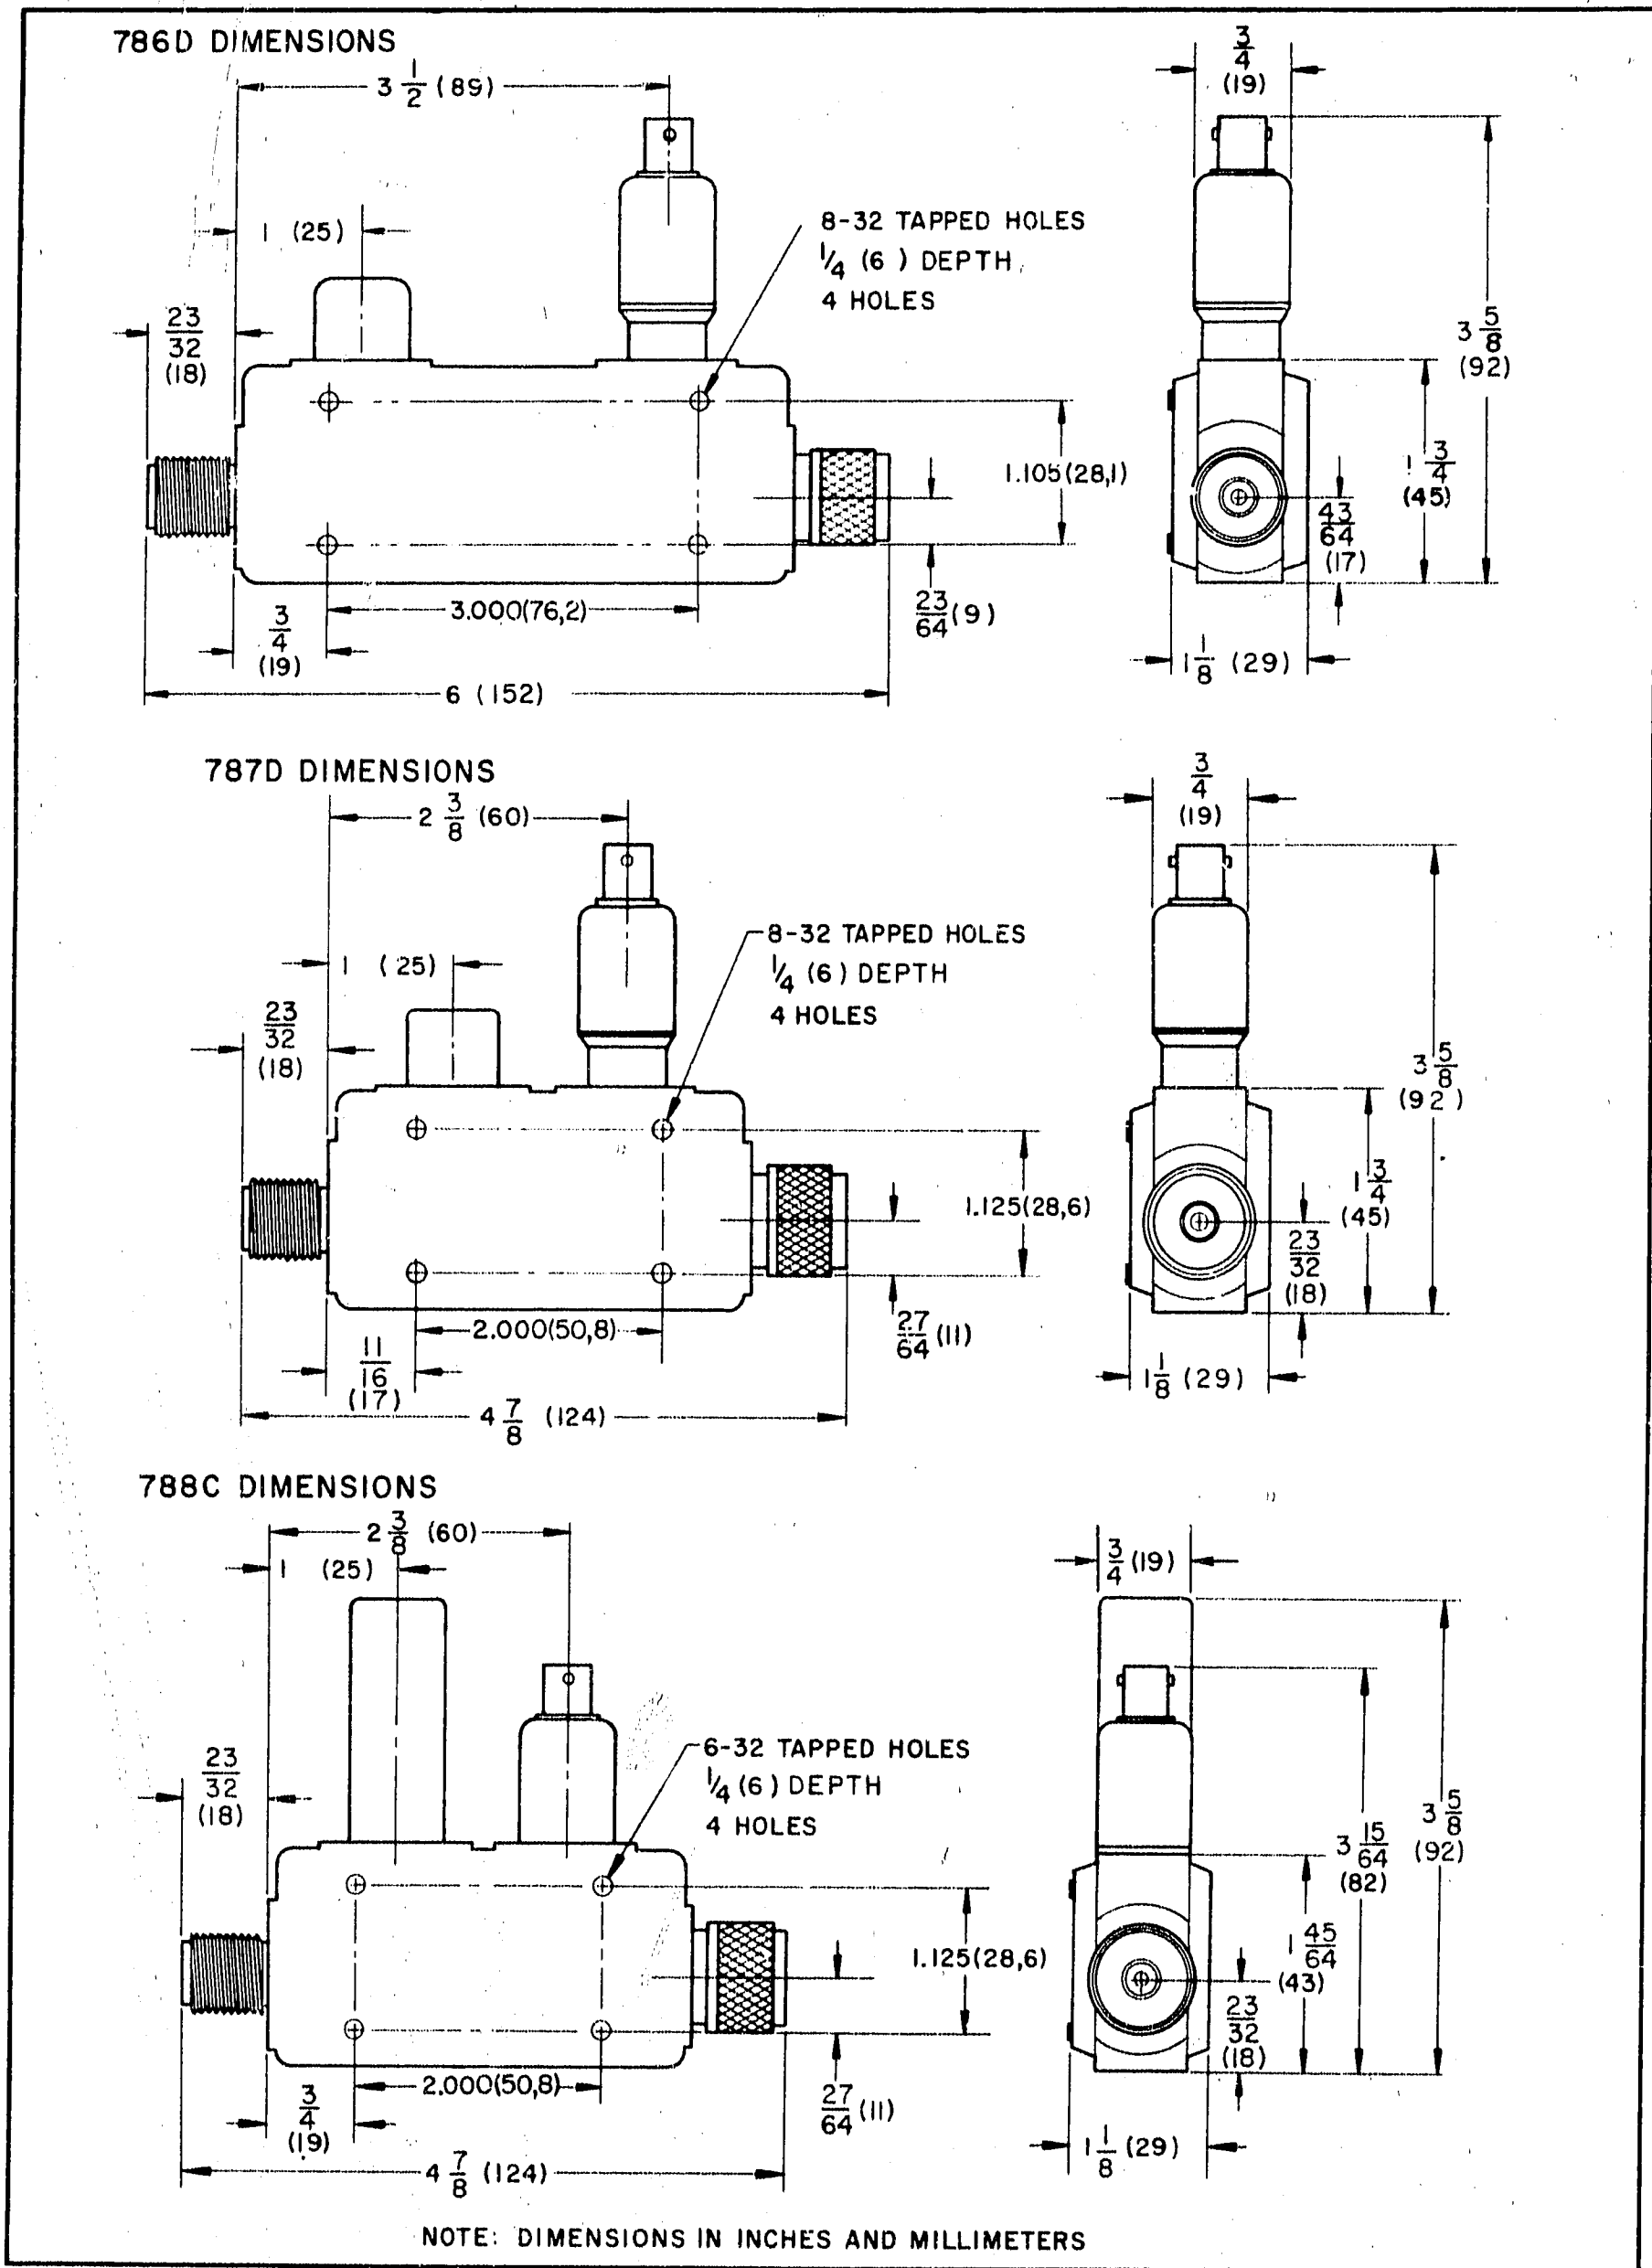

Figure 1. Outside Dimensions
11. The directional detector is useful as the sampling and detection device in closed-loop leveling setups as described in Paragraph 17. It can also be used as a calibrated power monitor by determining the correlation between detected output and main-line RF output levels, or for relative RF envelope observation with an oscilloscope. If the directional detector is to be permanently mounted for any application, refer to Figure 1, which illustrates the location of the four mounting holes and the general side dimensions. Before installing in any setup, the following should be considered:
b. The detector element used is sensitive to either amplitude-modulated or continuous-wave (CW) RF power. If RF power is amplitude modulated at a 1000-Hz $\pm 2\%$ rate, the sensitive HP Model 415B or 415E (SWR Meter) can be used as the indicator. For CW detection, a dc milliammeter or millivoltmeter (with an input impedance of at least 100K ohms), such as the HP Model 425A Microvolt-Ammeter can be used as the indicator.